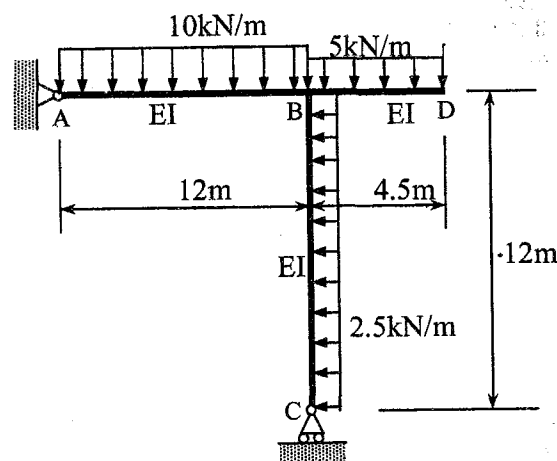

Figure 1
- [b] Figure 1 shows a frame with pin and roller support at A and C, respectively. The frame is subjected to: uniformly distributed loads of 10kN/m along AB, 5kN/m along BD and 2.5kN/m along the vertical member BC. EI for all members of the frame are the same. Compute the vertical deflection at point D. Use method of virtual work.